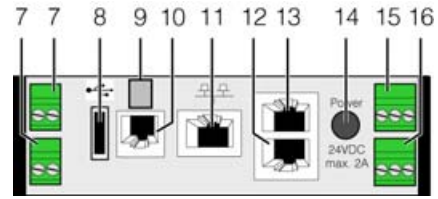

Fig. 79: Liquid Cooling Package control unit (CMC III PU) – rear
Up to four additional standard sensors may be connected to the control unit (CMC III PU) to monitor additional physical parameters of the Liquid Cooling Package. To this end, the sensors are connected to the first CAN bus connection on the rear of the control unit (fig. 79, item 11) and configured via the Web interface.